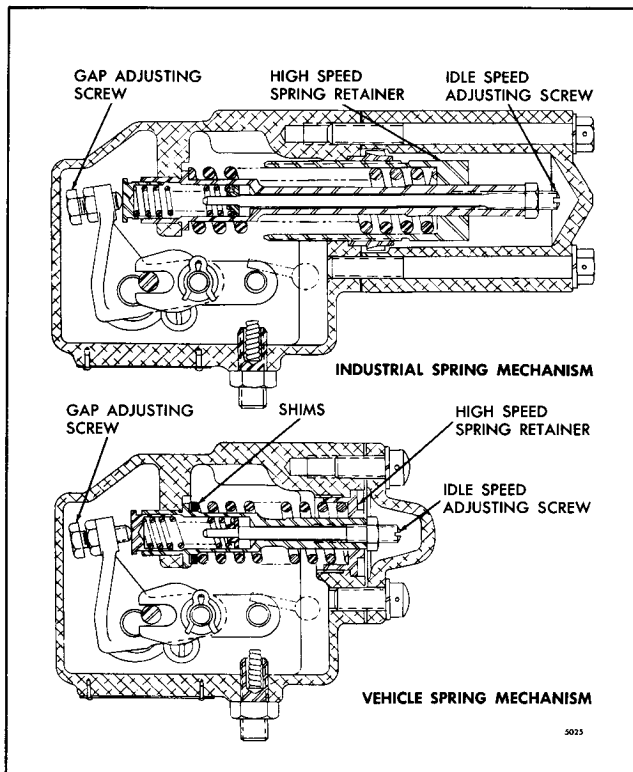

Fig. 4 - Differences Between Industrial and Vehicle Spring Assemblies
3. Stop the engine and if necessary, refer to Fig. 4 and adjust the engine to the desired No-Load speed as follows: